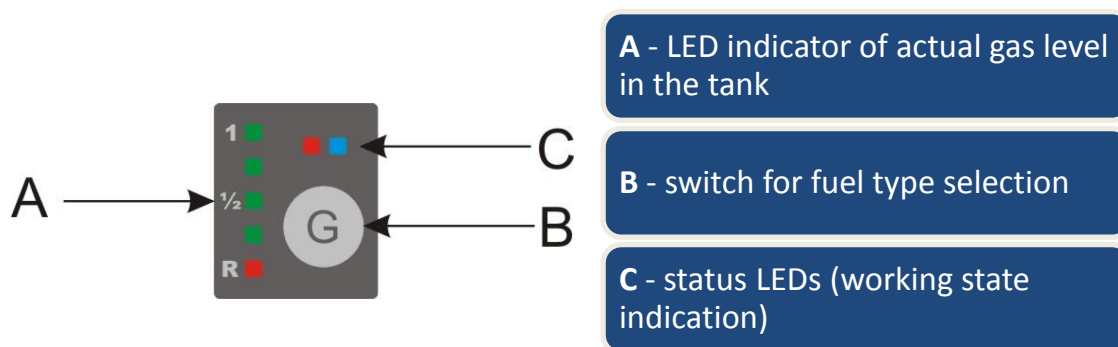
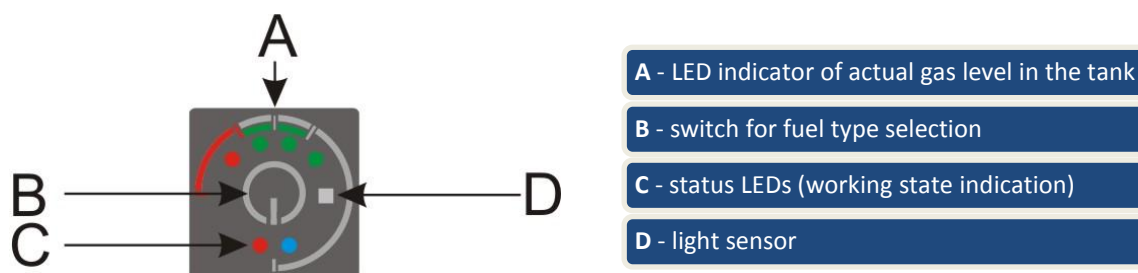

Fig. 2.1 Diego G3 control panel.
Fig. 2.2 NEVO control panel.
Driver uses control panel to communicate with Diego G3 (Fig. 2.1) / NEVO (Fig. 2.2) gas ECU.
2.2 Light sensor (NEVO only) (Fig. 2.2) (D)